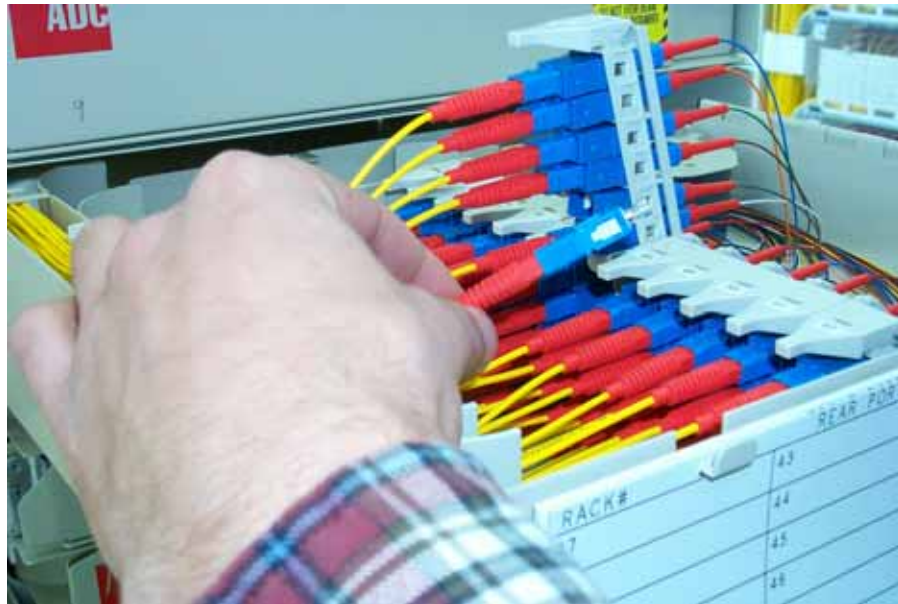

Figure 82. Removing Front Side Connectors
4. Remove each front side connector from the adapter pack adapter and immediately cover with a dust cap as shown in Figure 82. Label and then set aside.